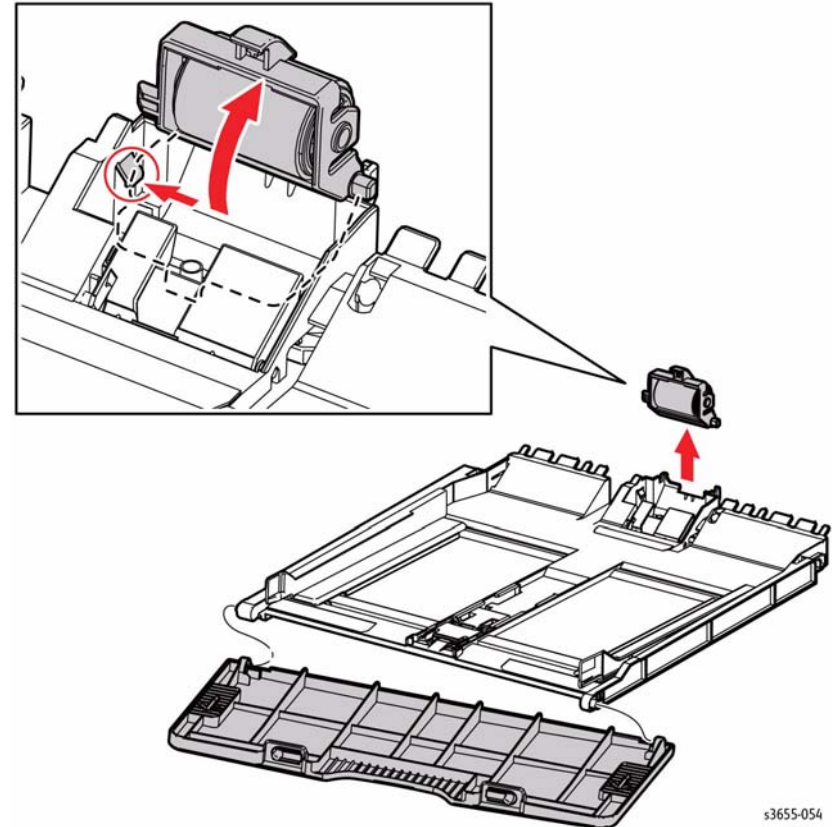

Figure 1 Remove the MSI Retard Roller Assembly
2. Refer to Figure 1 to locate and release the hook that secures the Retard Roller Assembly to the Bypass Tray, then remove the assembly by rotating it in the direction of the arrow.